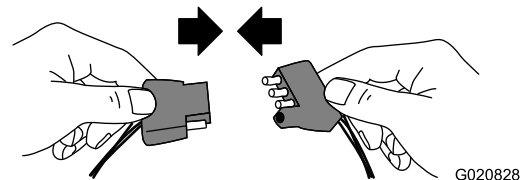

**Figure 28**
3. Connect each length of chain to the safety chain mounting point on the tow vehicle with the connecting links (Figure 28).
**Note:** For models 68007C and 68008C, connect the connecting links to the appropriate links in the safety chain (Figure 28). If the excess chain hangs too low and touches the ground, connect it again to the connecting link to raise it away from the ground.